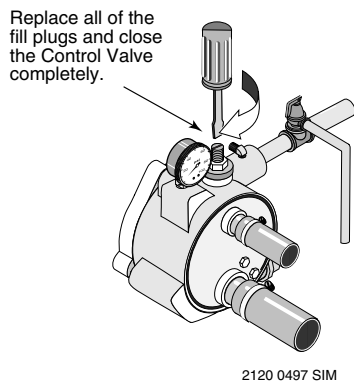

Figure 15: Replace the Fill Plugs and Control Valve
2. Replace the fill plugs and the control valve completely (see Figure 15).